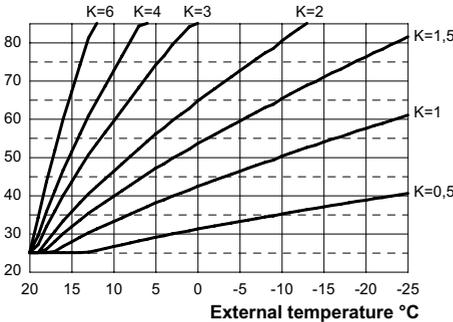

Fig. 7.16
If the boiler is **EQUIPED** with the remote control (optional) refer to Fig. 7.16. In this case K setting must be done from the remote control.
When installing the external probe it is necessary to set this parameter based on the efficiency of the heating plant in order to optimise the flow temperature (Fig. 7.16).
E.g. In order to have a flow temperature at the heating plant of 60°C with an external temperature of -5°C, set a K at 1.5 (sectioned line in Fig. 7.16).
- Using keys 15 or 16 it is possible to change the value of parameter 15 from a minimum of **01** to a maximum of **60** based on the selected bend of the K coefficient in Fig. 7.16 (the value read on the display corresponds to K coefficients decimal values).